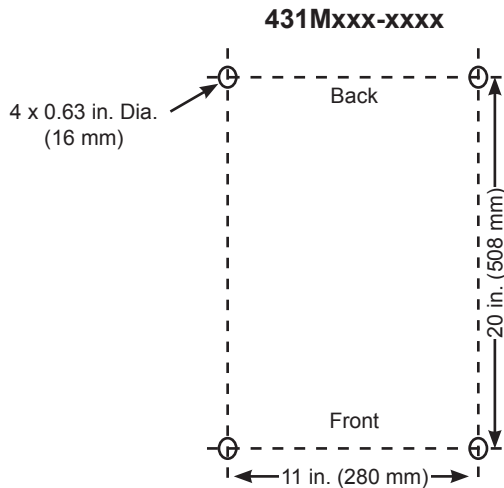

Figure 12-4 - Mounting Hole Locations/Dimension on UPS Base
- Four mounting bolt holes on the base to anchor the unit to the floor. See Figure 12.4. Use 1/2 in (12 mm) bolt to anchor the unit.